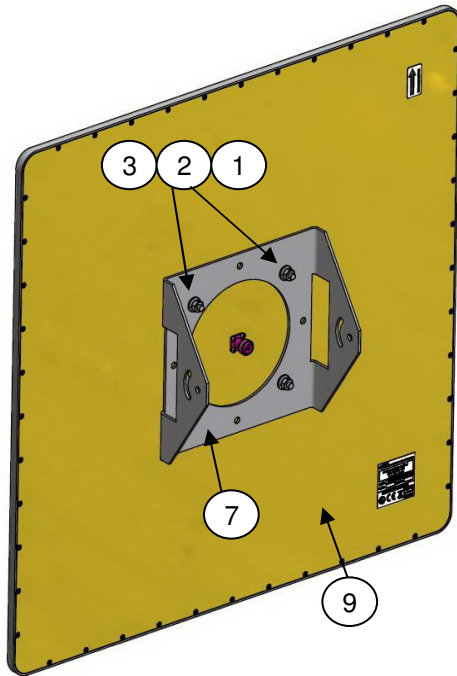

Fig. 1
1.1 Align holes of Plate item 7 with studs of Antenna item 9. Put Plate onto Antenna (**Fig. 1**)